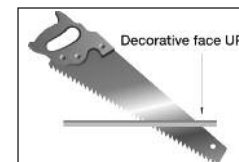
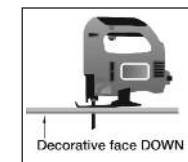

Fig.9
Fig.10
- If you're using a handsaw, cut panels with the decorative surface placed UP (Fig.9). If you're using an upward cutting jig saw, it's decorative face DOWN (Fig.10).